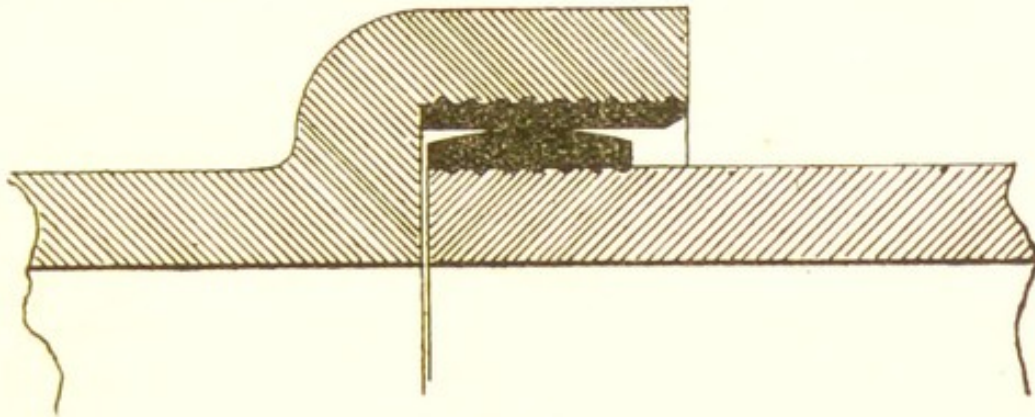

FIG. 7.
*Doulton's Self-Adjusting Joint* is shown in Fig. 7. It is a good form, and is of the same type as Stanford's. It is simple and very easy to joint. This joint is only supplied upon selected pipes of the best stoneware. A modified form of this joint is also manufactured - it consists in lining the socket with compressible material, and thus affording an elastic seating for the spigot.